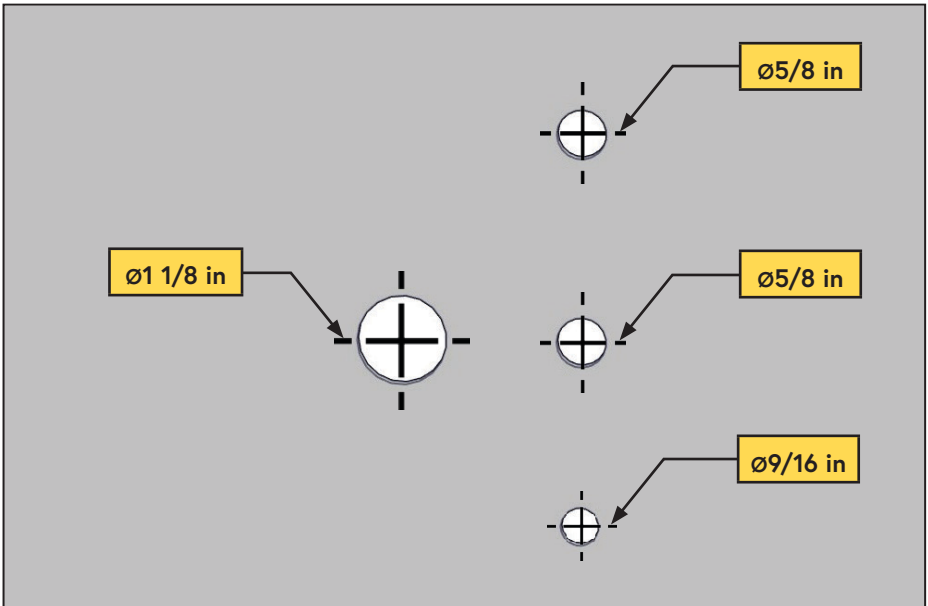
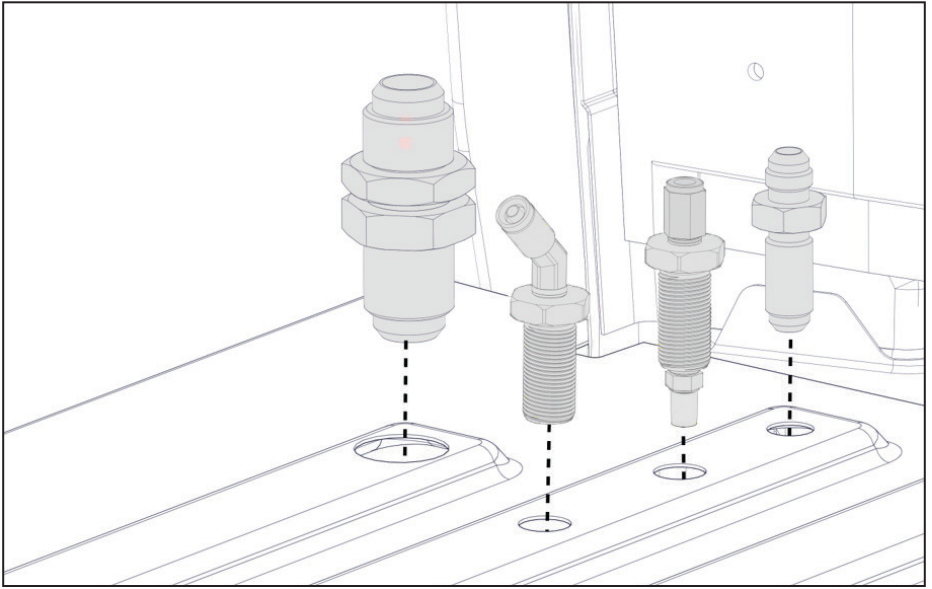
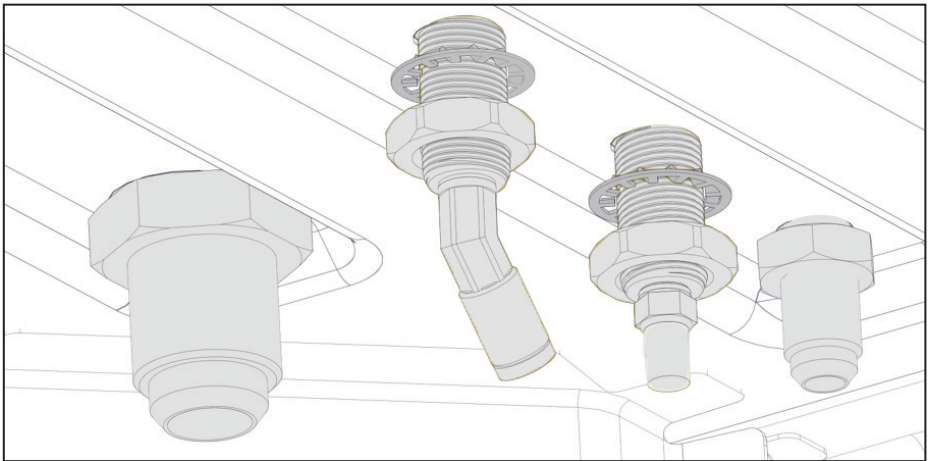

Figure 25 — Hole diameter
Figure 26 — Interior View
Figure 27 — Exterior View
Drill the bulkhead fitting holes using a drill, step drill or hole saw. Leave enough room between the fittings to allow access for a wrench (Figure 25, Figure 26, Figure 27):
- Fit the bulkhead fittings through the top of the hole and secure from the bottom with the supplied nuts. Apply Loctite 567 (thread sealant) when installing the 1/4 in push-to-connect fittings in the bulkhead fittings (Figure 26, Figure 27).